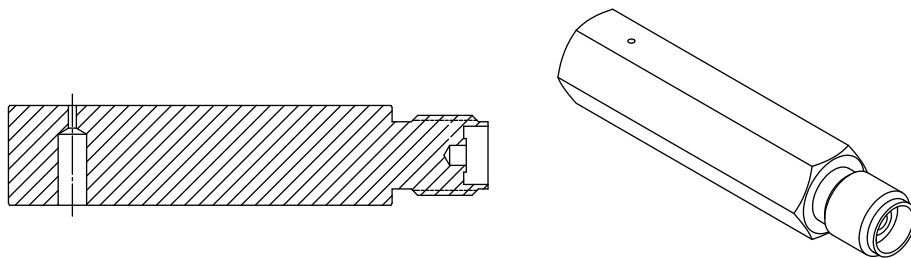

Figure 3-2. SC5296 Cable Assembly Multipurpose Tool
1. Remove approximately 6.5 mm of the outer conductor from one end of the cable. The outer conductor should be cut square and be free of burrs. A suggested method using the multipurpose tool in the Anritsu SC5296 tool kit (Figure 3-2 on page 3-2) follows: